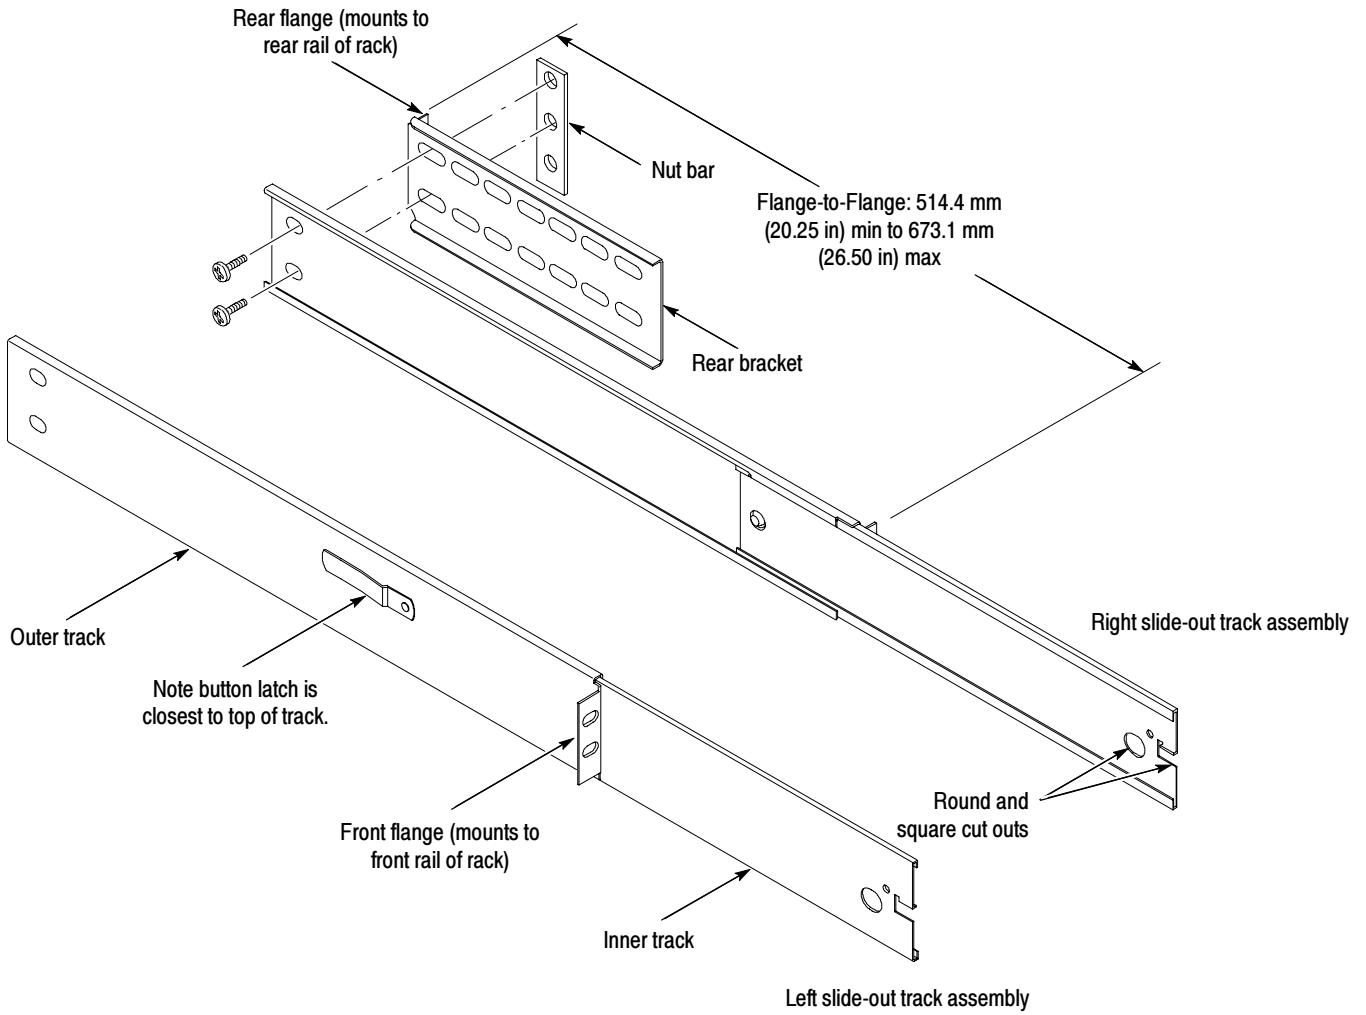

Figure 8: Assembly of slide-out track assemblies
If assemblies are disassembled, use Figure 8, page 16, to match left and right slides. (Note that when the left and right tracks are oriented as shown, the round cutout is below the square cutout at the end of the both inner tracks.)
- c. Align the rear bracket to the right slide-out track as shown in Figure 8. Note the rear bracket has multiple pairs of mount-through holes. When aligning the bracket and track, be sure to select a pair of holes that mount the rear bracket so the flange-to-flange distance (see figure) matches the front rail to rear rail spacing of the rackmount rack just measured.